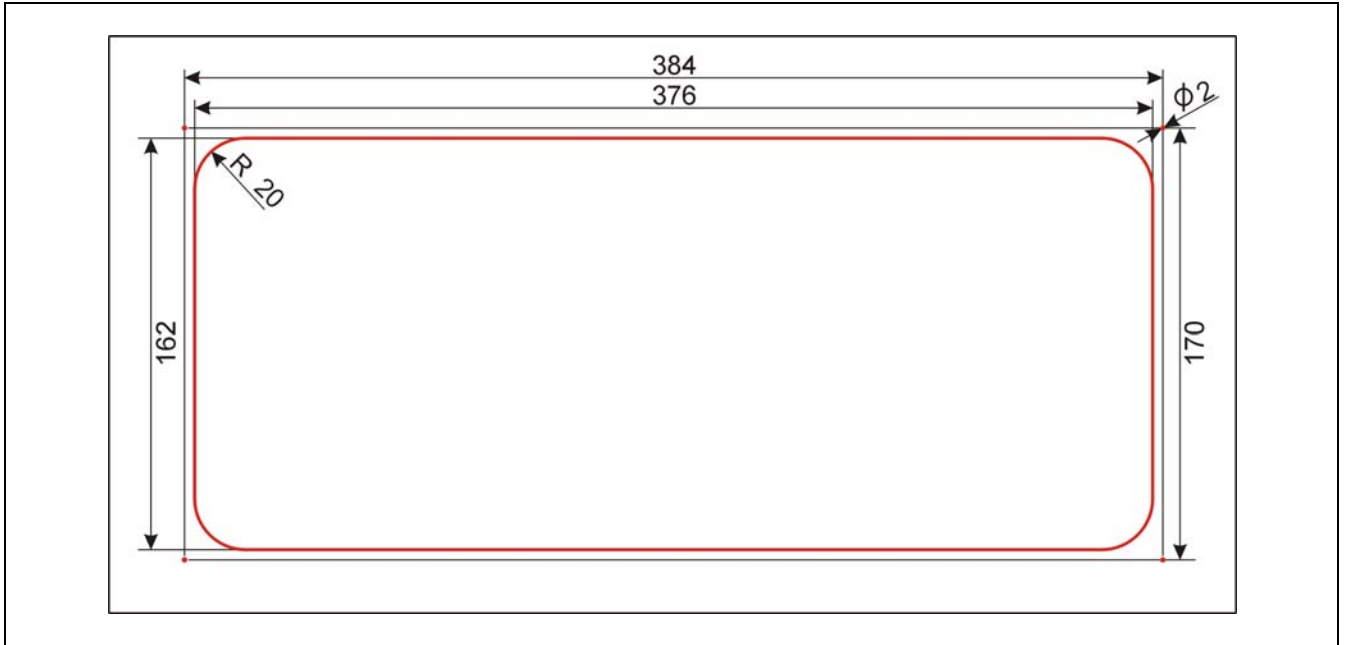

Figure 3.5.3 Fixing hole positioning diagram of HCS-8338/FM series congress terminal (unit: mm)
- Cut a hole in the table according to the dimensions in figure 3.5.3;